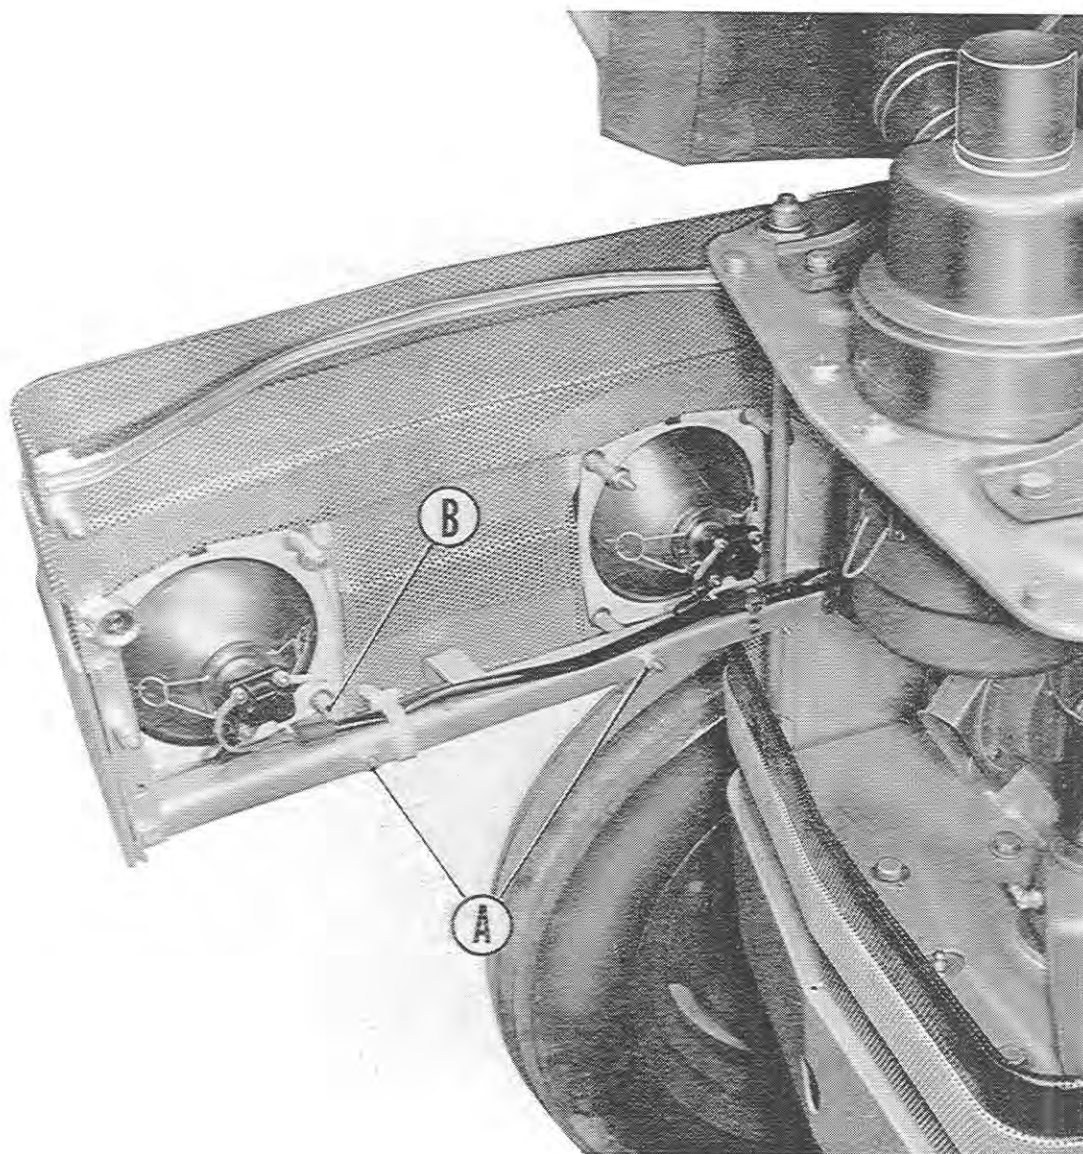

Fig. 5
- 3) Fit and tighten the two nuts holding the lamp supports to the lower bar (Fig. 5 - A).
- 2) Place the spring between the two washers and then the nut on each of the four bolts of each lamp (Fig. 5 - B).